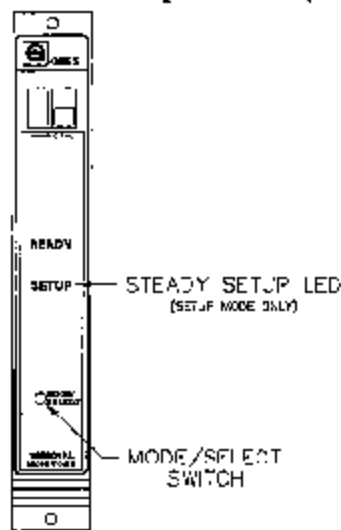

Figure 23
- **This option applies to the Setup Mode only:** If the password option is disabled, or after the correct password has been entered, the display will indicate **In** for five seconds (figure 23). Pressing the Mode/Select switch while **In** is displayed, will cause the unit to enter the Inhibit mode by inhibiting the alarm outputs. After the unit has entered the Inhibit mode, the Model 4802 will return to normal operation. If it is desired to enter the Setup Mode, do not press the Mode/Select switch for the five seconds that **In** is displayed.